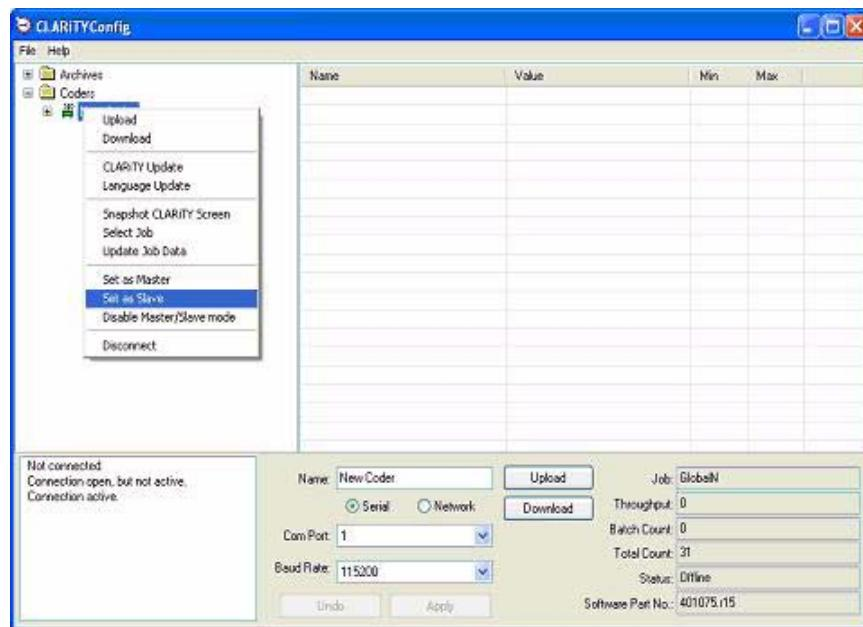

Figure 10-9: CLARiTY® Config - Slave Setup
- 2 Right click on the 'New Printer' icon when the icon turns 'green' and Select 'Set as Slave', from the list as shown in Figure 10-9.